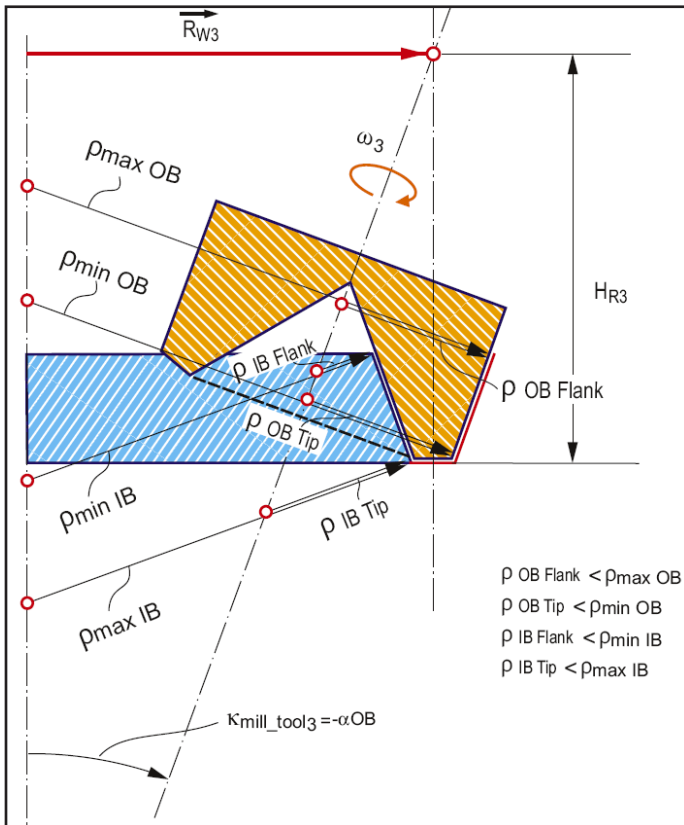
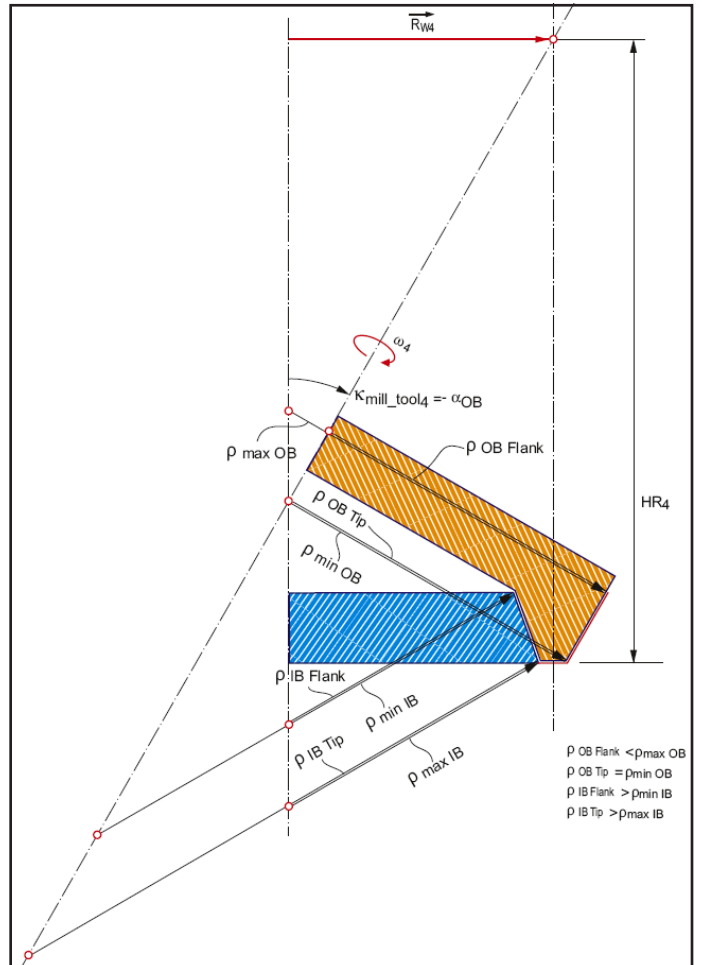

Figure 9 Cylindrical tool with conical inside profile.
Figure 10 Cylindrical tool with conical inside profile and larger diameter in order to avoid mutilation.
If the tool diameter is increased to a certain extent, it becomes possible to machine the second flank (*IB*) simultaneously to the first (*OB*-flank (Fig. 9)).
- $\rho_{OB\ Tip} \leq \rho_{minOB}$ (given in Fig. 9)
- $\rho_{OB\ Flank} \leq \rho_{maxOB}$ (given in Fig. 9)
- $\rho_{IB\ Tip} \geq \rho_{maxIB}$ (not given in Figure 9)
- $\rho_{IB\ Flank} \geq \rho_{minIB}$ (not given in Figure 9)
The diameter of the cutting tool (Fig. 9) has to be increased until the axis of rotation crosses the origin of ρ_{minOB} (intersection with original cutting tool axis). In such a case, $\rho_{IB\ Tip} = \rho_{maxIB}$ and $\rho_{IB\ Flank} > \rho_{minIB}$ applies (Fig. 10). κ_{mill_tool} (Fig. 10) is still $-\alpha_{OB}$